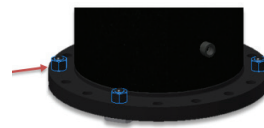

Figure 65
5.0.25) Before lifting insertion housing onto the 16" Temporary gate valve, FIRMLY tighten packing nut thumb screw and unscrew the four 1"–8 nuts holding the alignment plate gauge (see Figure 65).